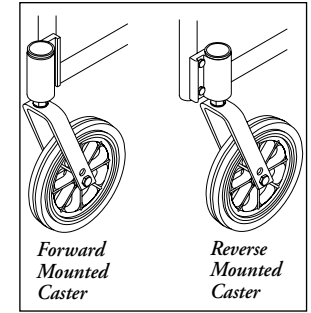

Figure 27
2. Caster Reversibility (Fig. 27)